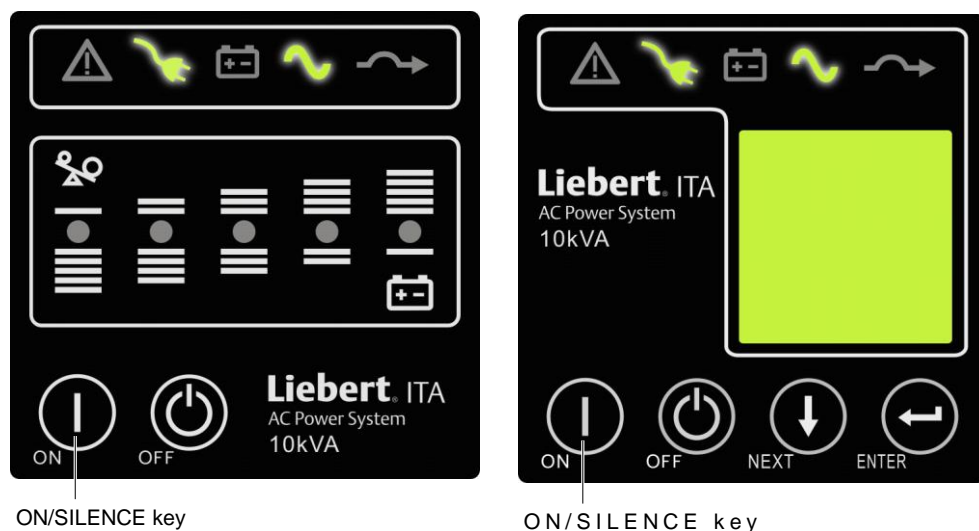

Figure 2-31 Indicator status
3. Press the ON/SILENCE key for more than one second, and wait for about 30 seconds, the UPS will enter the inverter standby mode automatically, at this time, the inverter indicator blinks. After the UPS has output, the inverter indicator will turn on, as shown in Figure 2-31